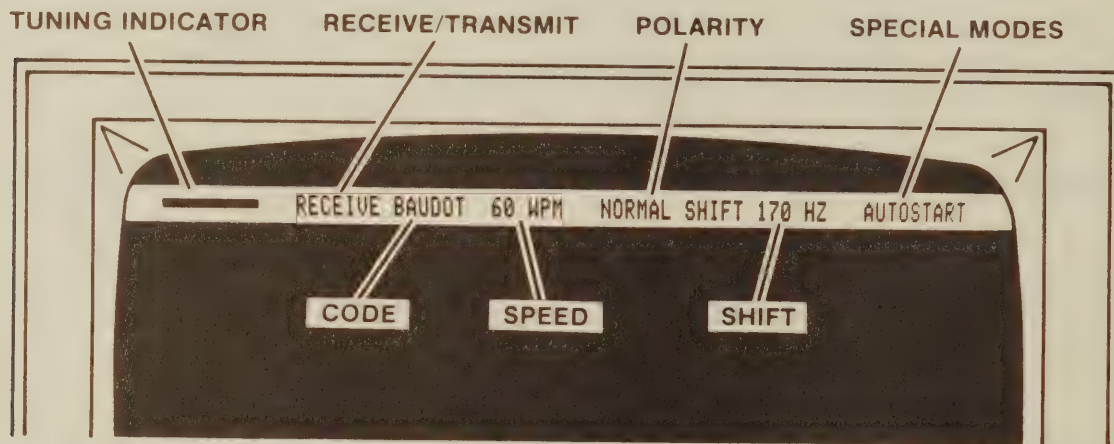

FIG. 4-3. STATUS INDICATOR LINE, RTTY MODE.
Proper receiver tuning is imperative for reliable RTTY reception. The RTTY demodulator in the model 800 uses two active discriminator filters for separating the mark and space tones. Optimum RTTY tuning is had when the outputs of these filters are evenly matched. The tuning indicator system on the Model 800 is the "plus-plus" type (see Fig. 4-3). It alternately displays the outputs of the mark and space discriminators. The tuning indicator is a bar on the status line which varies in length with respect to the output amplitude of the discriminators. If the receiver is mistuned, these outputs will differ and the bar will change in length as it shifts between mark and space. Due to the speed of the frequency shifting, this causes the bar to "flicker." The receiver should be tuned to minimize the flicker in the bar. For those who prefer an oscilloscope display tuning indicator, the scope outputs on the back panel of the Model 800 can be used for this purpose.
**DISPLAY** - Figure 4-3 illustrates the status line on the display used in the RTTY mode. The status line is used to give the operator direct feedback when changing